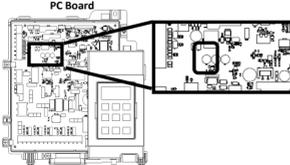
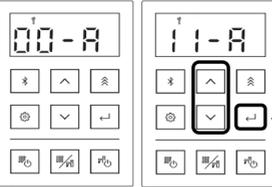

Fig 5. SW 1 Button on PC Board
Fig 6. "00-R" shown in display Fig 7. "Up," "Down" and "Select" Buttons
- To access the parameter settings, press and hold the SW 1 button on the PC Board for five seconds (Fig 5). 00-R appears on the display (Fig 6).